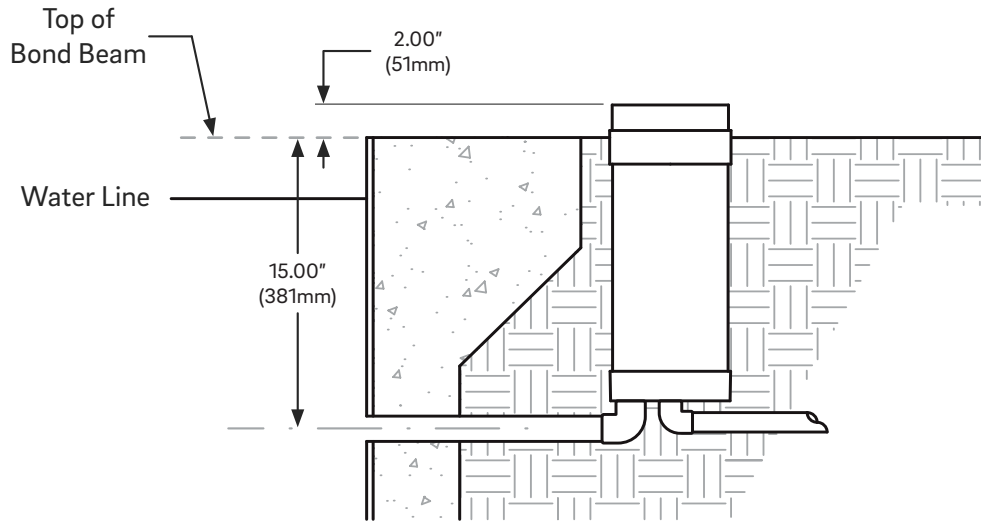

Figure 3
1. To ensure a proper height for poured concrete decks, the top of the QuikDekClor canister should be set 2" above the top of the bond beam and as close to the form as possible. This setting will position with the 1" balance line approximately 15" below the top of the form (Figure 3).